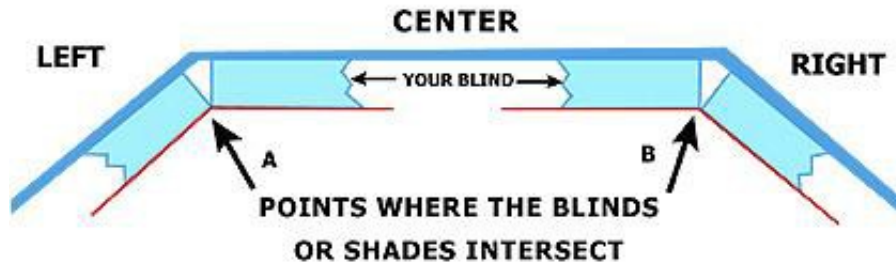

FIGURE 1
- 1) **Where the Left section meets the Middle section:** From the Left window section measure out the distance of the depth of the blind type you are using. At this point, make a small mark on your ceiling as demonstrated by the red line in FIGURE 1.
- 2) **Where the Middle section of the window meets the Left section:** From the Middle window Section, measure out the distance of the depth for the blind type you are using. At this point make a small mark on your ceiling demonstrated by the red line in FIGURE 1.
- 4) **Where the Right section of the window meets the Middle section:** From the Right window section, measure out the distance of the depth for the blind type you are using. At this point, make a small mark on your ceiling demonstrated by the red line on FIGURE 1.
- 5) **Where the Middle section of the window meets the Right section:** From the Middle window section measure out the distance of the depth for the blind type you are using. At this point make a small mark on your ceiling demonstrated by the red line on FIGURE 1.
- 7) Now measure the distance from **POINT A to POINT B**. Subtract $1/8''$ from this distance and that is the width of your Middle blind (Shown in Light Blue in FIGURE 1).
- 8) Measure from the **left side of the left wall to POINT A**. Subtract $1/8''$ from this distance and that is the width of your Left blind (Shown in Light Blue in FIGURE 1).
- 9) Measure from the **right side of the right wall to POINT B**. Subtract $1/8''$ from this distance and that is the width of your Right blind (Shown in Light Blue in FIGURE 1).